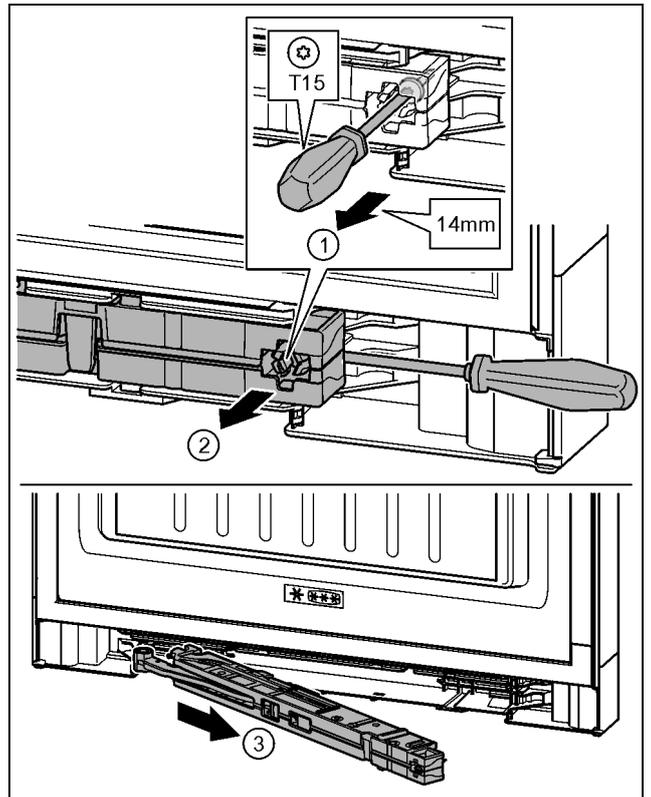

Fig. 17
- ▶ Undo the screw on the soft stop mechanism about 14 mm with a T15 screwdriver. Fig. 17 (1)
- ▶ Insert the screwdriver on the handle side behind the soft stop mechanism. Turn the unit forwards. Fig. 17 (2)
- ▶ Remove the unit. Fig. 17 (3)